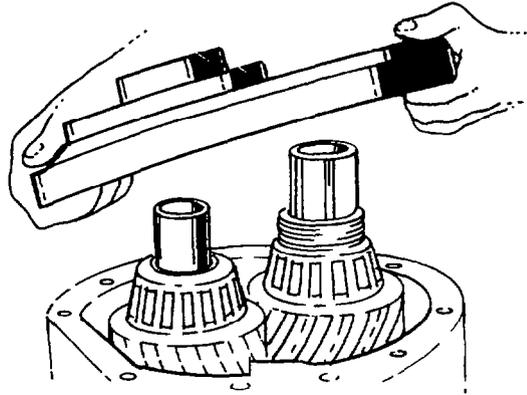

Fig. 263 — Installing End-Plate Assembly
- ag. Carefully install the end-plate assembly onto the front drive housing (see fig. 263). Install the front drive shaft outer bearing cone into the retainer, and install the end-plate retaining bolts. Torque the bolts to 61 – 88 Nm (45 – 65 lb.ft), and the nuts to 75 – 100 Nm (55 – 75 lb.ft).